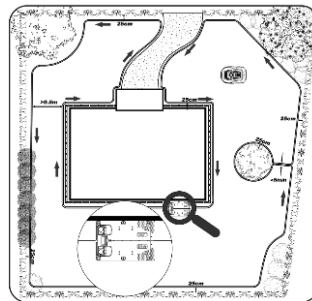

Figure 1
- Do not make perpendicular corners (90°). The corners must be at least 100° (figure 1 - page 57);
Place the charging station as shown in the sketch (figure 1) and insert the first peg. Make sure you reserve 0.5 metres of wire to use for the final installation of the charging station.